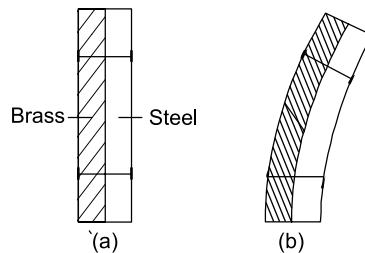

Figure 22.1
- (v) The amount of expansion varies with different materials. Figure 22.1(a) shows a bimetallic strip at room temperature (i.e. two different strips of metal riveted together – see Section 3.12, page 58). When heated, brass expands more than steel, and since the two metals are riveted together the bimetallic strip is forced into an *arc* as shown in Figure 22.1(b). Such a movement can be arranged to make or break an electric circuit and bimetallic strips are used, in particular, in thermostats (which are temperature-operated switches) used to control central heating systems, cookers, refrigerators, toasters, irons, hot-water and alarm systems.